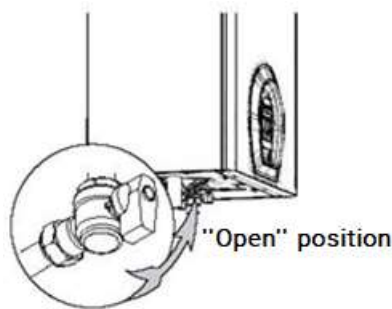

Figure 2.1
• Boiler valves have to be switched on, see. Figure 2.1.